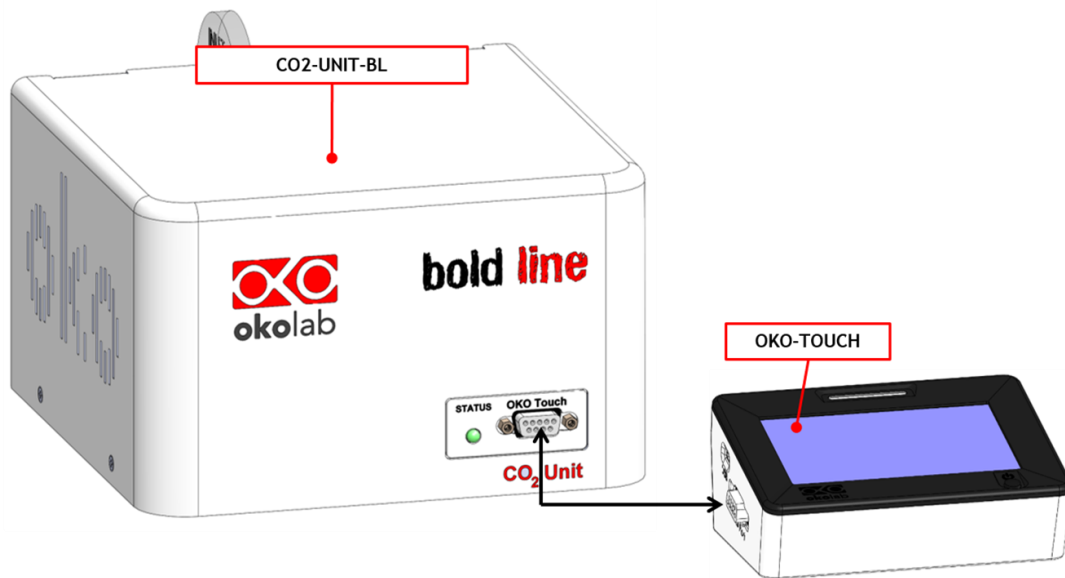

Figure 13. Oko Touch Connection.
5. Connect the touch screen interface OKO-TOUCH to the CO₂-UNIT-BL with the RS232 serial cable as illustrated in Figure 13.